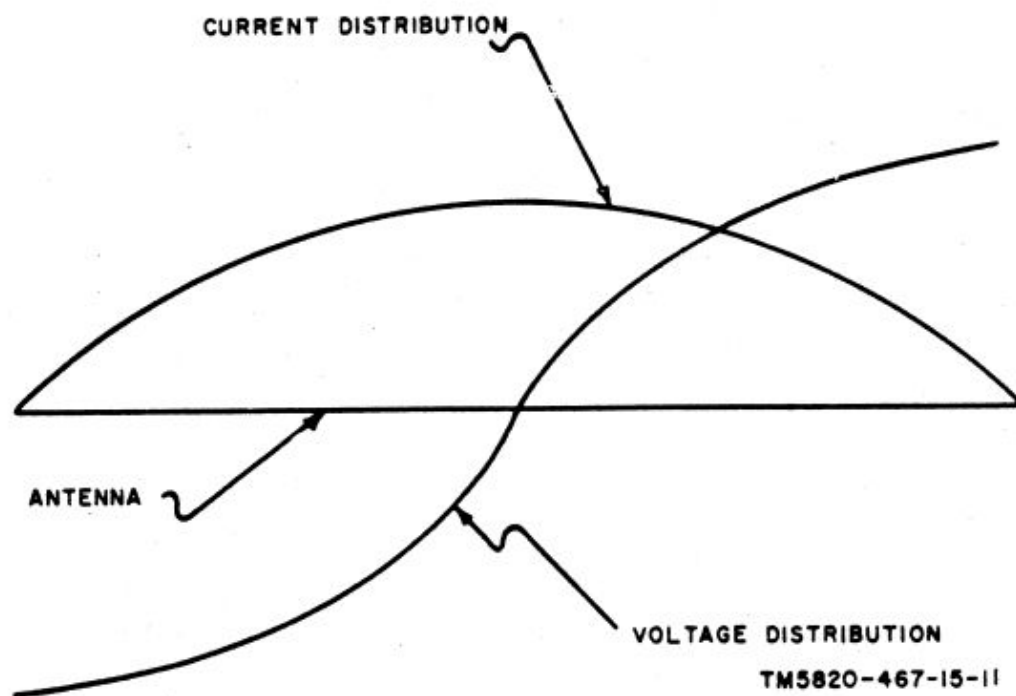

Figure 11. Current and voltage distribution in half wave antenna.
a. *Basic Half Wave Antenna.* During transmission, the rf current in the antenna wire produces a radiated field. During reception, a radiated field from a distant station antenna cuts the antenna wire and causes a current flow in the wire. In a half wave antenna, current is maximum at the center and minimum at the ends, while voltage is minimum at the center and maximum at the ends (fig. 11); therefore, impedance is minimum at the center and maximum at the ends. The impedance at the center of a basic half wave antenna is 72 ohms. The current distribution in the antenna is the same regardless of the amount of current flow; the amplitude of the current at any point on the antenna varies directly with the amplitude of the signal voltage.